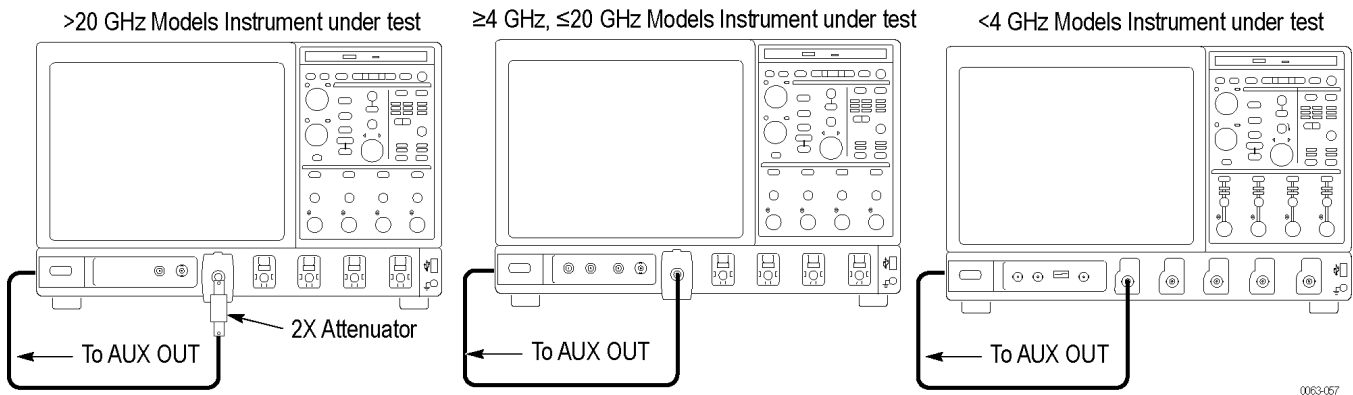

Figure 35: Aux Trigger Out test hookup
- a. *Hook up test-signal source:* Connect **Aux Out** to **Ch 1** through a 50 Ω precision cable and an adapter. (See Figure 35: Aux Trigger Out test hookup.)